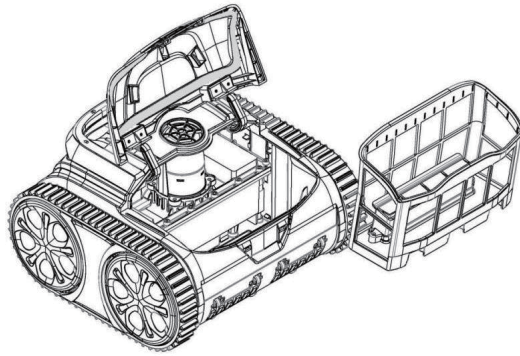

Figure 4-3
4.3.2 Remove the filter basket from the cleaner (Figure 4-3).